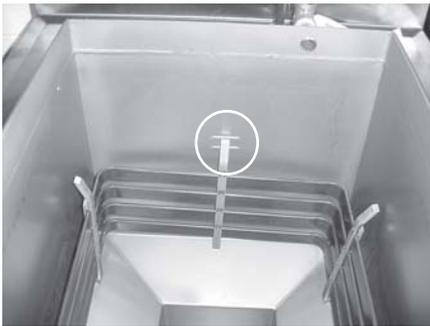

Figure 3-3
The shortening level must always be above the heating elements when the fryer is heating and at the frypot level indicators on the rear of the frypot (Figure 3-3). Failure to follow these instructions could result in a fire and/or damage to the fryer.
2. The electric model requires 100 lbs. (45 kg.) of shortening. The frypot has 2 level indicator lines inscribed on the rear wall of the frypot which show when the heated shortening is at the proper level. Figure 3-3.